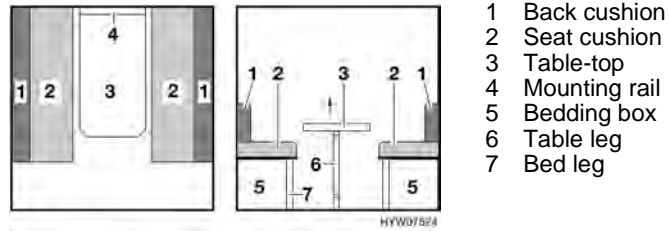

Fig. 42 Prior to conversion
- Slightly lift the front of the table-top (Fig. 42,3).
- Loosen the table leg (Fig. 42,6) out of the locking device and fold it against the bottom of the table.
- Lift the table-top by approx. 45°, remove it out of the mounting rail (Fig. 42,4) and place it to the side or push it into the holder. The table is not required for the sleeping conversion.